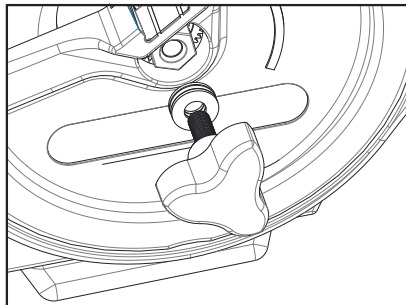

Figure 22
2. Rotating clockwise, remove the clutch knob.(Figure 22)